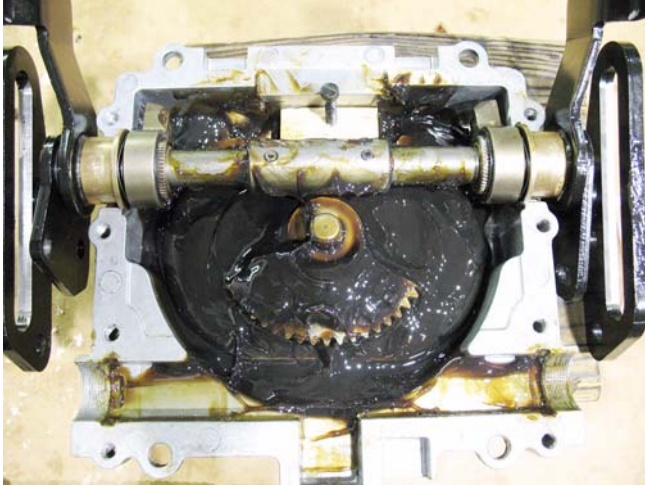

Figure 6.56
14. Fill the lower housing with 12 oz. of 737-0300A Durina™ grease. See Figure 6.56.